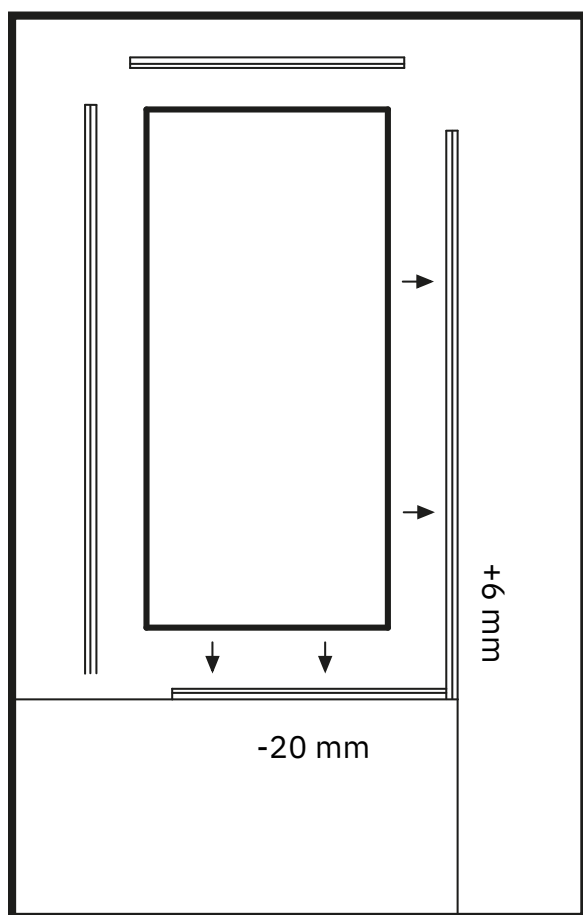

Figure 1
1. Check the length of the U-channel and glass. The bottom and top U-channel should be about 20 mm shorter than the glass, and the longer vertical U-channels should be about 6 mm longer than the glass. (Fig 1)